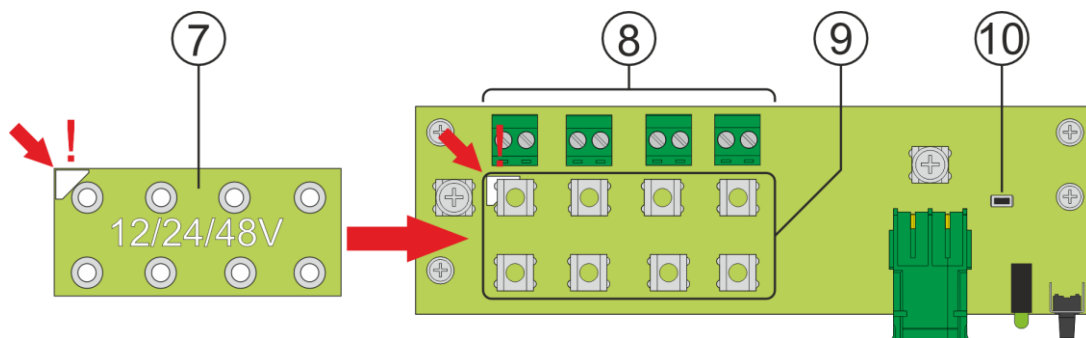

Fig.2b. View of PCB
5. Select the battery type using the jumper (item 10, Fig. 2b).